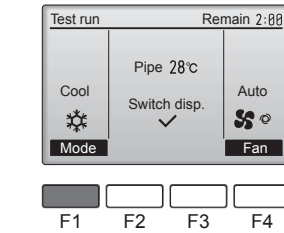

Fig. 7-3
- ① Press the [F1] button to change the operation mode. (Fig.7-3)